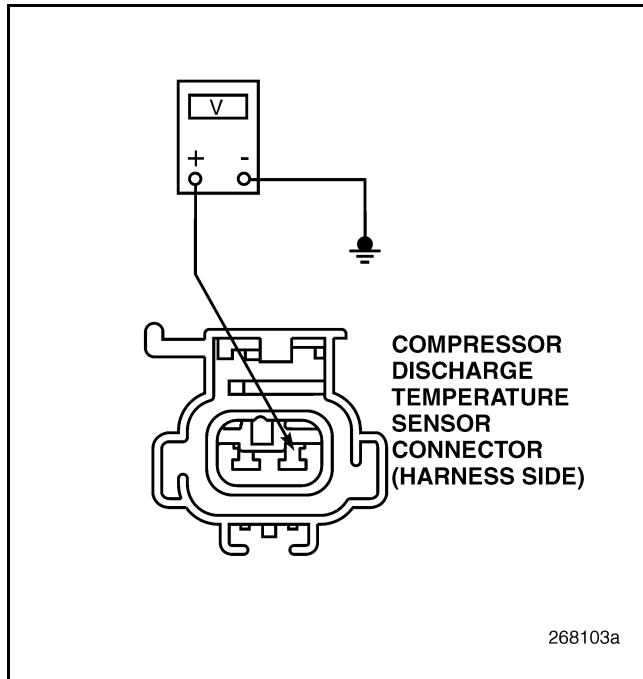

Figure 819
3. Measure the voltage between CDT Sensor harness connector pin 1 and a good ground (see Figure 819).